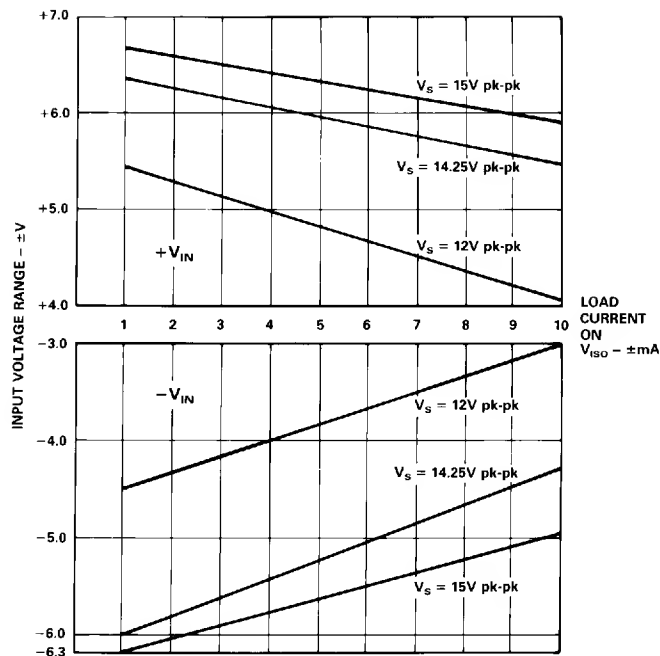

Figure 7. Input Voltage Range ( $\pm V$ ) vs. Load Placed on the Isolated Power Supplies (mA) and Clock Driver Voltage (V pk-pk)
**Input Voltage Rating.** The linear input voltage range for the AD208 is specified as  $\pm 5\text{ V}$ . This rating applies when the AD208 is powered by a 15 V pk-pk  $\pm 5\%$ , square wave (@ 25 kHz). The specified input voltage range is, however, affected by the clock driver voltage and the load placed on the AD208's front-end isolated power supplies. The variation of the input voltage range as a function of the isolated power supply load and the clock supply voltage are illustrated by the parametric curves in Figure 7.